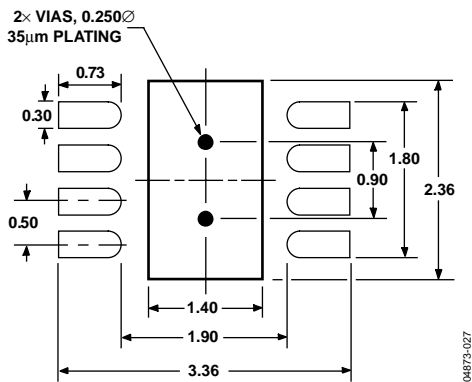

Figure 27. 3 mm x 3 mm LFCSP Pad Pattern (Dimensions in millimeters)
- The pad pattern is shown in Figure 27. Follow the pad dimension closely for reliable solder joints, while maintaining reasonable clearances to prevent solder bridging.